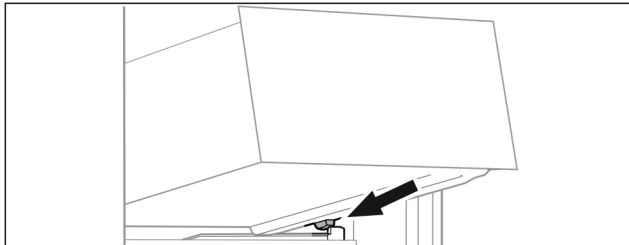

Fig. 100
- ▶ Place drawer at an angle behind the stoppers on the moulded rib. (see Fig. 100)